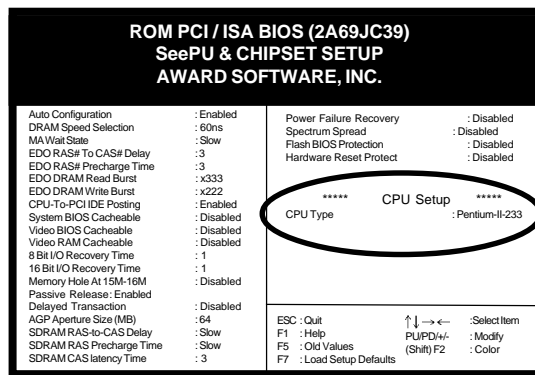

Figure 2-2
2. Move the cursor to SeePU & Chipset Setup menu and press Enter. Find the CPU Setup commands at the right hand part of the BIOS screen (Figure 2-2) Commands for operating the cursor in BIOS are found at the lower right of the BIOS screen.